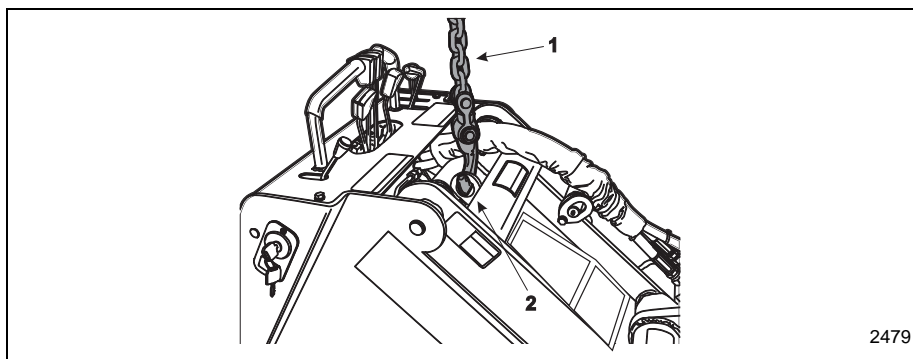

Figure 3-15 Machine Lifting
When transporting the machine, make sure to use DOT approved chains and binders (Item 1, **Figure 3-15**) to secure the machine to the “D” rings (Item 2, **Figure 3-15**) on the trailer. **NOTICE:** It is recommended to secure the machine through the ring on the front of the machine (Item 2, **Figure 3-15**) and through the two rings on the Operator's Platform (Item 4, **Figure 3-15**).
2. Use appropriate lifting chains (Item 1, **Figure 3-15**) that can safely lift 4,000 lbs (1820 Kg).